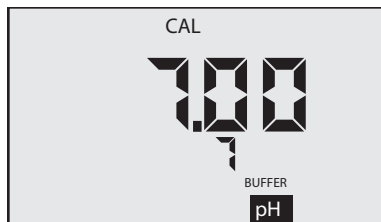

Figure 5
4. Press  to enter calibration mode. The “**CAL**”, “**BUFFER**” and “**7**” annunciators will appear (see Figure 5). Displayed value will be the uncalibrated sensor.